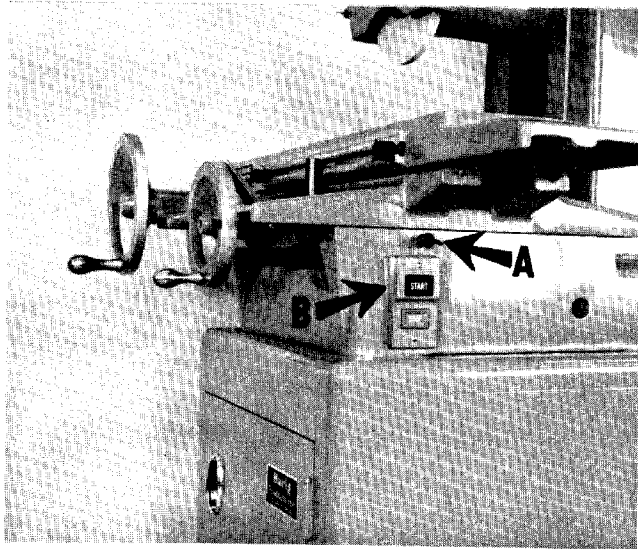

Figure 10
4.3 Lift slightly from skid. Balance machine by turning crossfeed handwheel. (Loosen locking thumb screw, *A*, *Fig. 10*, page 6.)
To turn spindle motor on, depress "start" button located under the table (B, Fig. 10). This also starts the lubricating system oil pump. After ½ minute the oil level should rise to the mid-point of the sight glass in the column cap of the machine. This shows that the machine is ready for operation.
Achieve manual crossfeed by loosening the crossfeed travel locking thumb screw (A, Fig. 10) on the right side of the base under the table ¼ turn, and operating the crossfeed handwheel.
**H. Work piece not parallel.** If the machine does not grind parallel front to back be sure the crossfeed lock screw (A, Fig. 10) has been loosened enough so the pressure pin is not rubbing on the carriage locking strap.